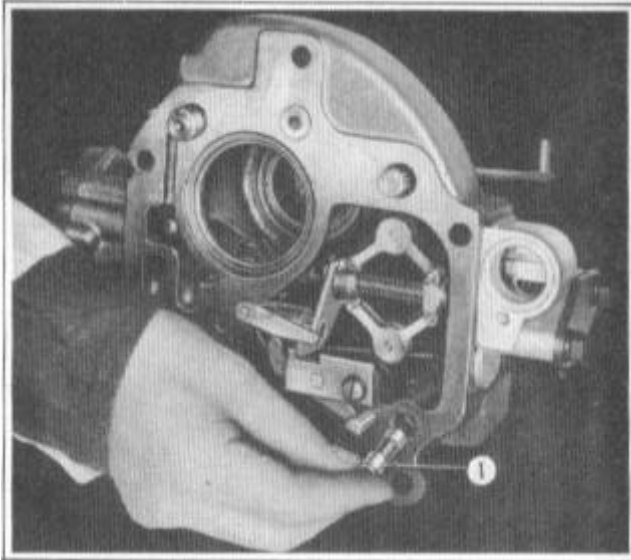

FIGURE 31
3. Install the governor control detent spring (1), Figure 31, in the detent bore. Check operation of detent spring and piston for free movement in the case bore.